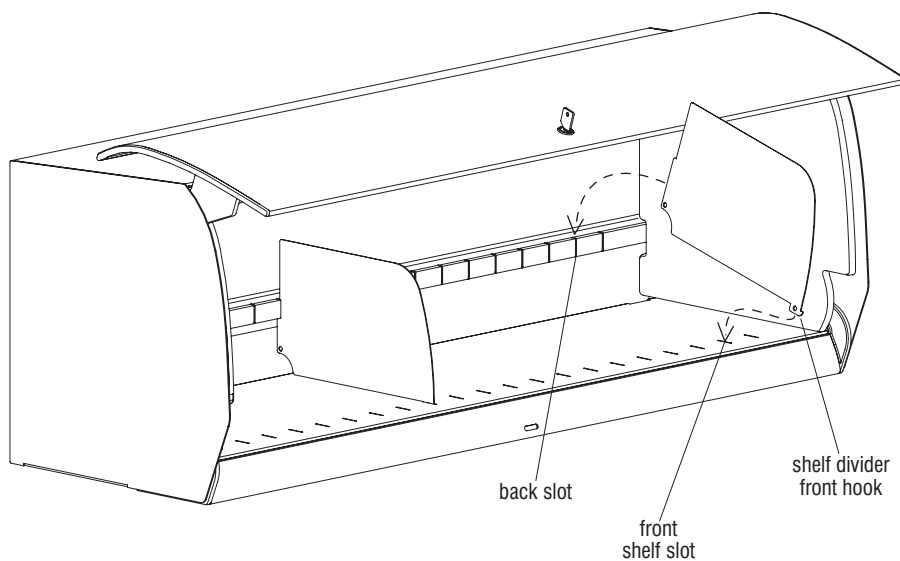

Figure 12
1. Orient the shelf divider as illustrated. Place the shelf divider front hook into the front slot of the overhead shelf. Rotate the back of the shelf divider down to engage it into the slot in the overhead back (Figure 12).